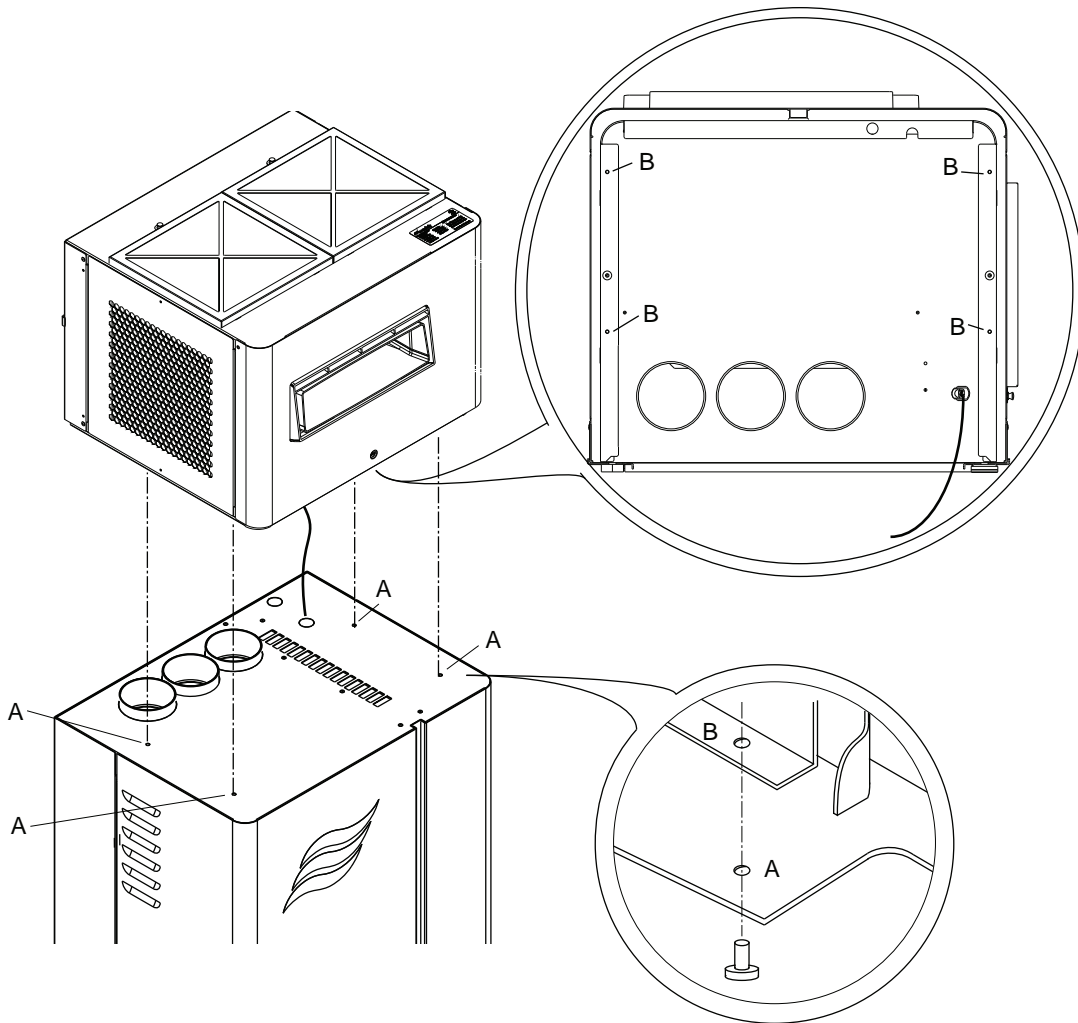

Figure 12 - Direct-mounting the Ultrasonic Blower Pack to the Humidifier
- b. Align the Ultrasonic Blower Pack mist inlet with the ultrasonic humidifier mist outlet, and ensure that holes A (on the humidifier) and B (on the blower pack) are aligned, as shown in Figure 12 on the next page.
- c. From the ceiling of the humidifier, fasten the Ultrasonic Blower Pack to the top of the humidifier with M4x6 mm screws (supplied). Refer to Figure 12 on the next page. From inside the plumbing section of the humidifier, the Ultrasonic Blower Pack's mist channel should extend beyond the ceiling.